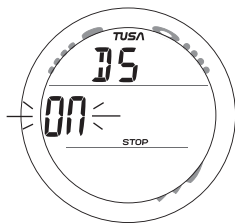

Fig. 51 - SET DEEP STOP
**SET NORM DEEP STOP**, information includes (Fig. 51):